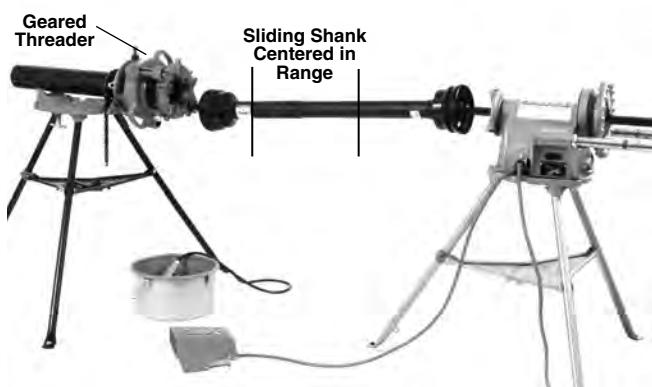

**Figure 9 – 840A Driveshaft Guard and Warning**
5. Align and slip the square socket of the 840A driveshaft over the geared threader driveshaft. Tighten two setscrews securely to hold in place. Make sure that the driveshaft universal joint guards are in place and in good condition (see *Figure 9*).